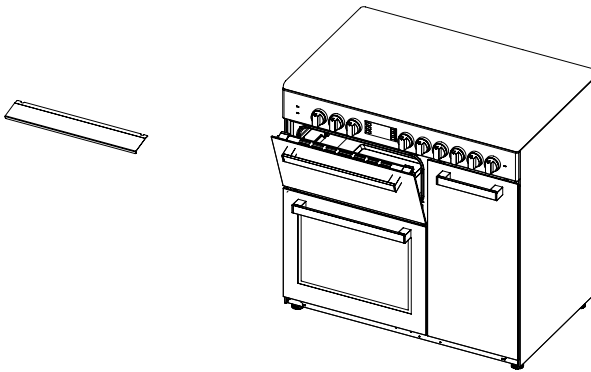

Figure 31
1. A safety panel is designed to protect control panel and the buttons when the oven is in grill mode. (figure 31)